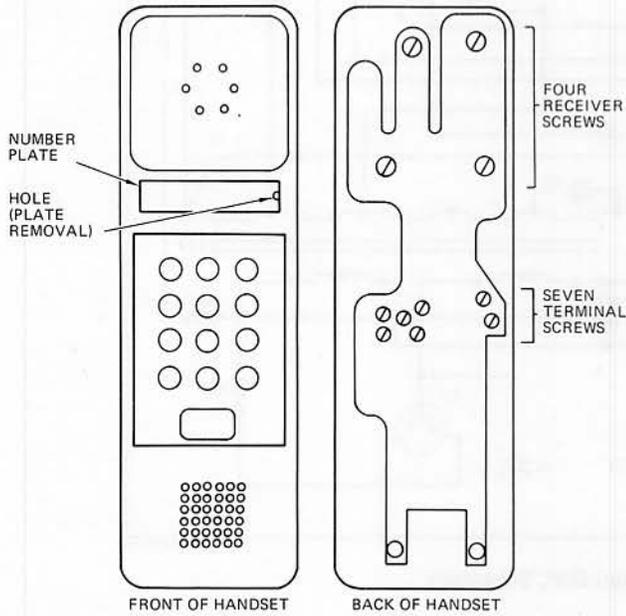

Figure 4: Trendline Handset
- (d) Install the seven terminal screws. (See Figure 4.)